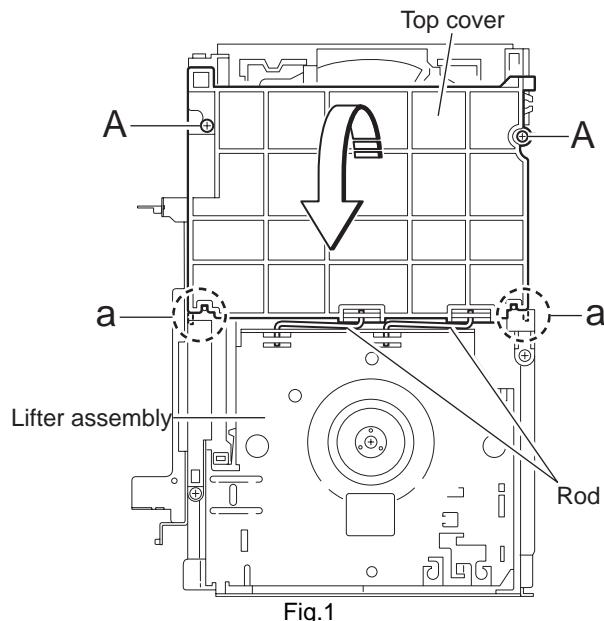

Fig.1
3.2.1 Removing the tray assembly (See Figs.1 to 5)